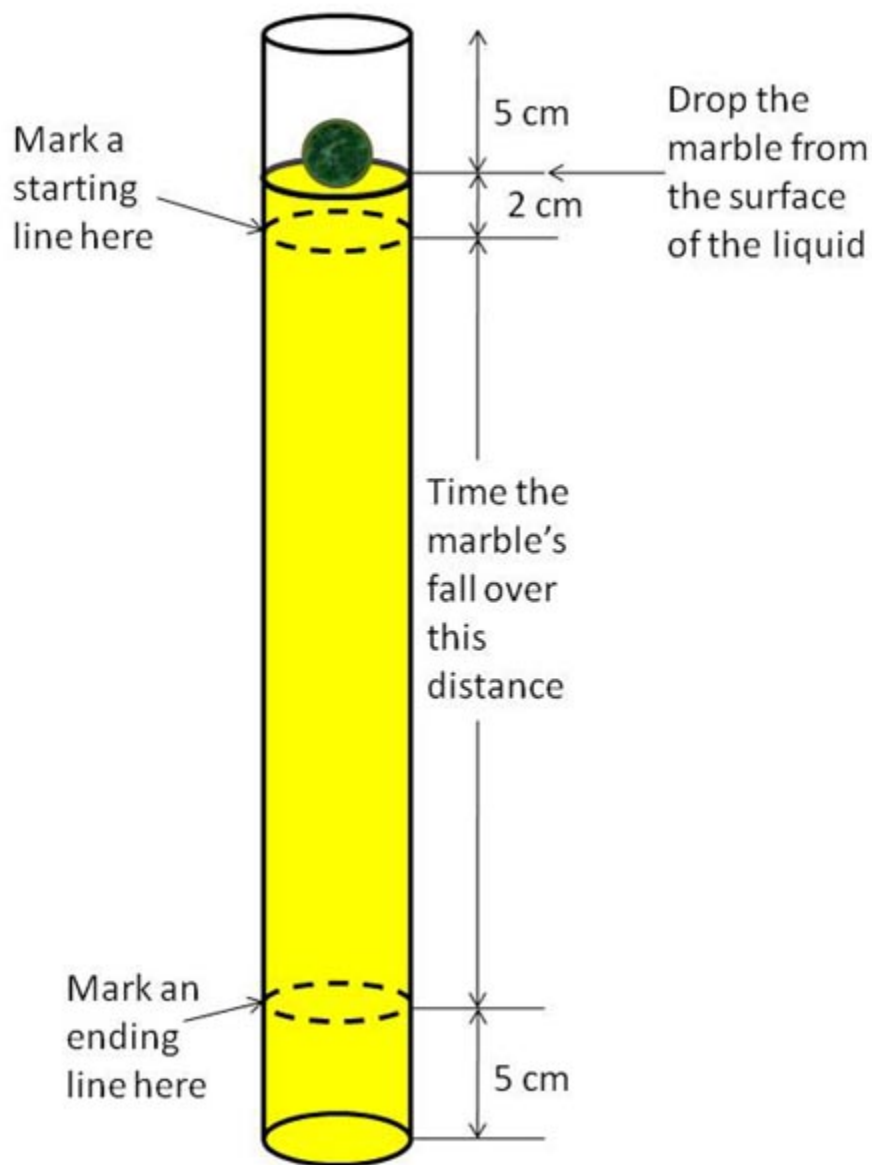

Figure 2. This drawing shows how to prepare the graduated cylinder for testing.
1. Fill the graduated cylinder up with one of the liquids to a level 5 cm below the top of the cylinder, as shown in Figure 2.
2. Measure down at least 2 cm below the surface of the liquid (as shown in Figure 2) and mark a starting line on the graduated cylinder with the marker. The starting line needs to be lower than the surface of the liquid to allow time for your marble to reach its **terminal velocity** before you start taking measurements.